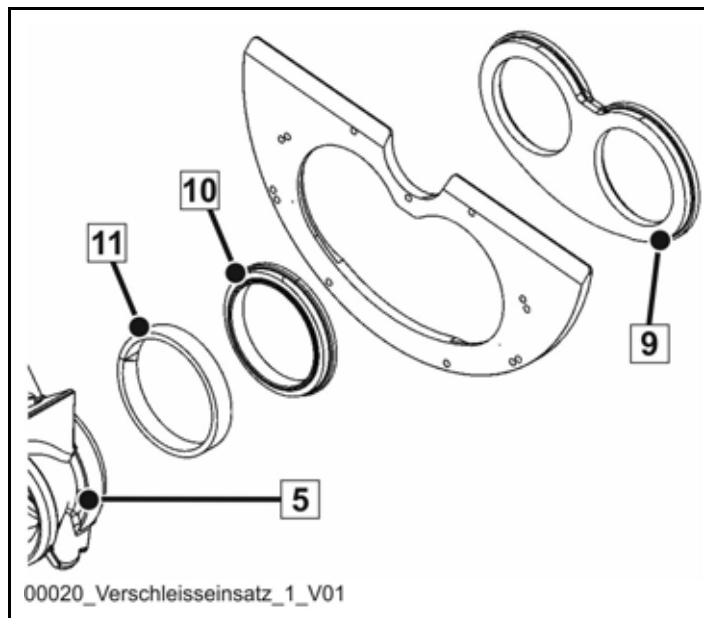
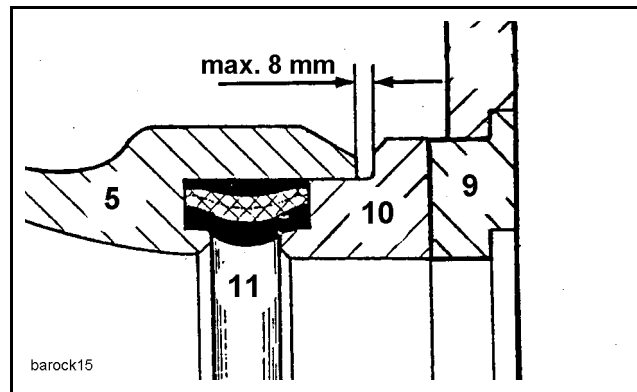

Fig. 315
Fig. 316
- Check the distance between the cutting ring (10) and the swivel head (rock) (5) (**Fig. 315**) and (**Fig. 316**) after each rotation.
- When replacing the cutting ring, check the condition of the wearing insert (9) and pressure spring (11) (**Fig. 316**).